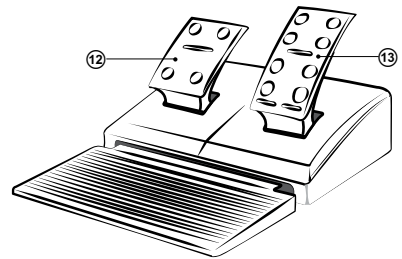

Fig. 3. Foot pedal unit
- Connect pedal unit (Fig. 3) to the device via cable of the pedal unit to RJ-11 jack ⑭, then connect USB cable ⑮ of the device to the USB port of the computer.